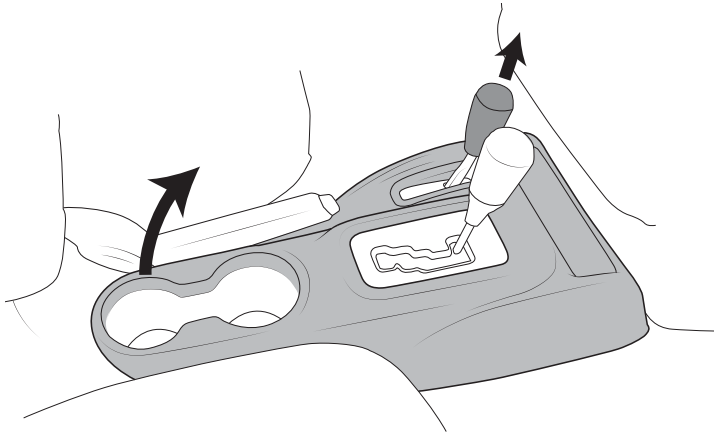

Figure 3
10. Remove the transfer case shift lever knob by pulling upward (fig. 3)
11. Remove the forward portion of the center console (fig. 3).